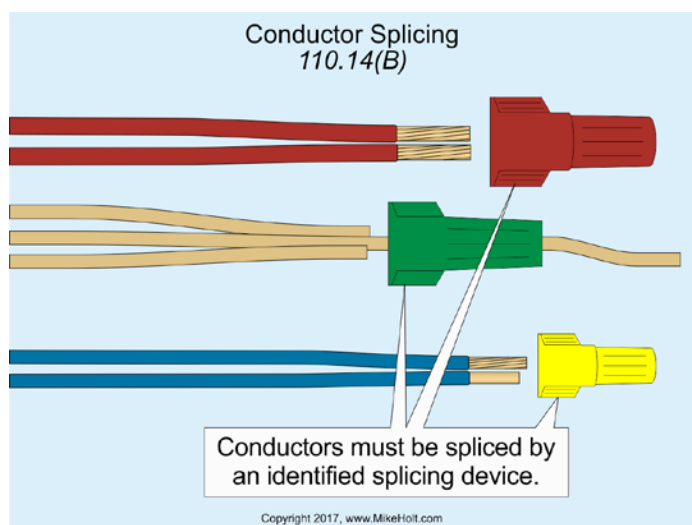

Figure 110-12
(B) Conductor Splices. Conductors must be spliced by a splicing device identified for the purpose or by exothermic welding. Figure 110-12